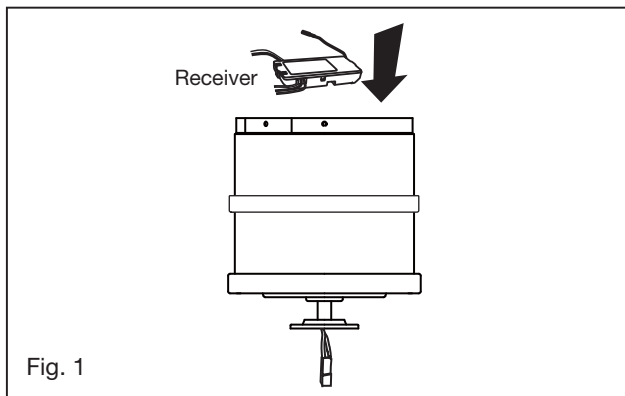

Fig. 1
1. Insert the receiver into the ceiling mounting bracket with the flat side of the receiver facing the ceiling. (Fig. 1) For best performance, make sure the Black Antenna and WIFI Antenna, on the end of the receiver, remains extended and not tangled with any of the electrical wires.
- 1 Move fan into position over the mounting bracket and secure with the 4 screws provided. (Fig. 1)